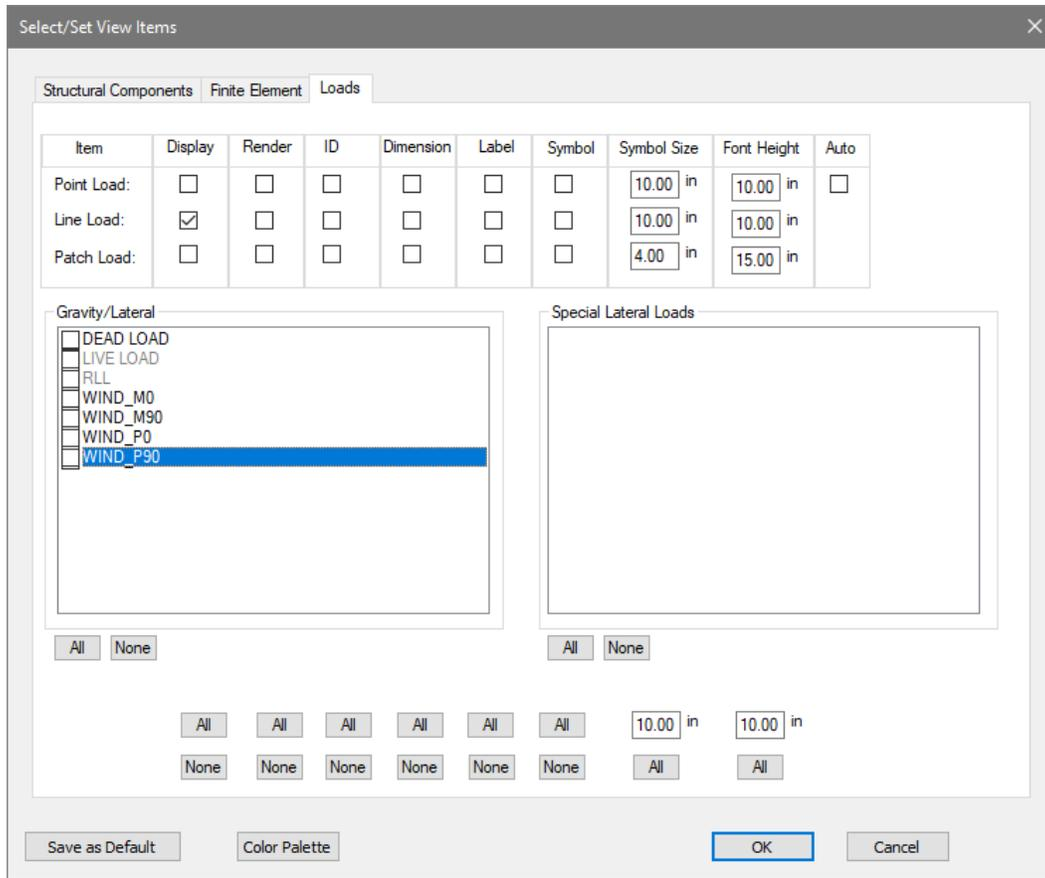

Figure 11-6
- Select the *Loads* tab and turn off the line load display for *Wind\_MO*, *Wind\_M90*, *Wind\_P0*, and *Wind\_P90* load cases. See **FIGURE 11-6**.